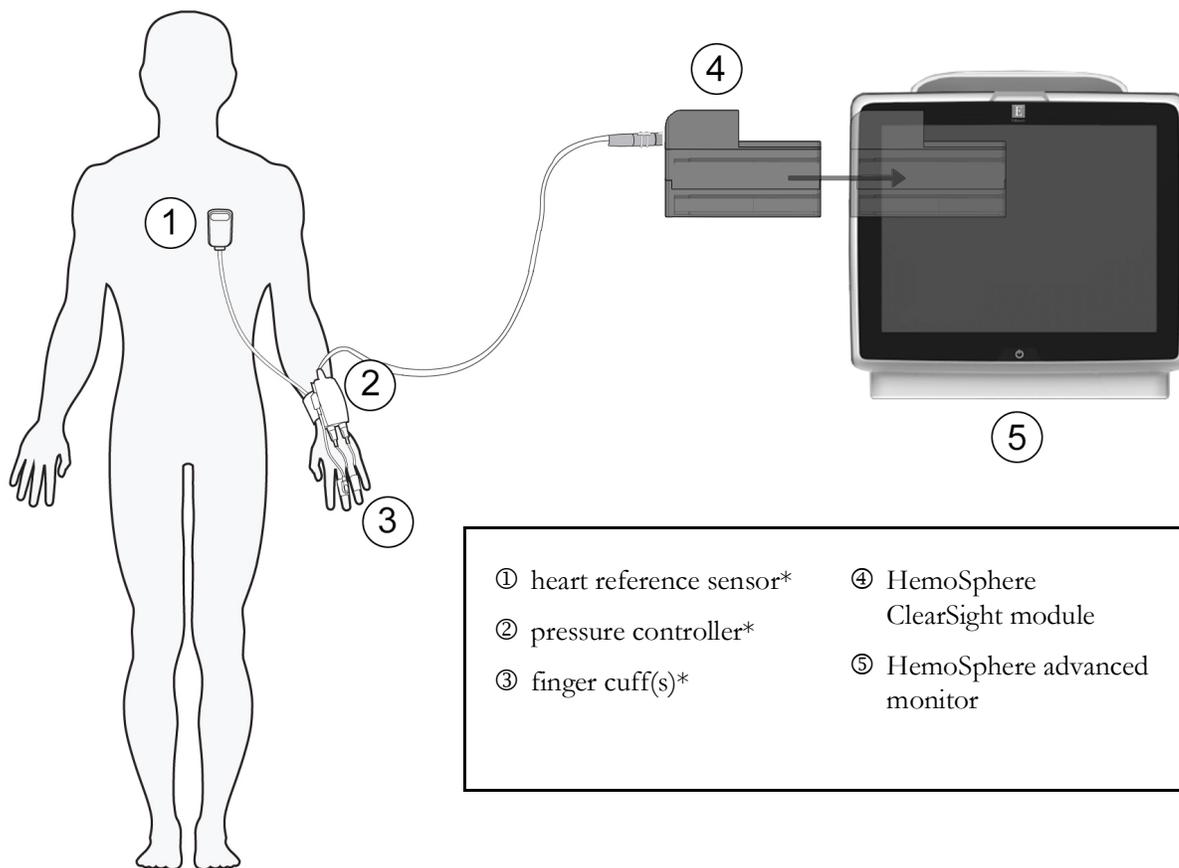

Figure 11-1 HemoSphere noninvasive system connection overview
The HemoSphere noninvasive system is composed of the HemoSphere advanced monitor with ClearSight module and connected pressure controller, heart reference sensor, and compatible Edwards finger cuff(s). See system connections in figure 11-1 on page 178. Accurate measurement of the patient's blood pressure and key hemodynamic parameters is based on the Volume Clamp method, Physiocal method and ClearSight algorithm.
The HemoSphere ClearSight module is compatible with all approved Edwards finger cuffs. See figure 11-1 for an overview of the HemoSphere noninvasive system connections.
NOTE Components indicated by * figure 11-1 legend are APPLIED PARTS as defined in IEC 60601-1 that in normal use necessarily come into physical contact with the patient for the HemoSphere noninvasive system to perform its function.
- 3 Attach the pressure controller cable to the HemoSphere ClearSight module. (figure 11-1)